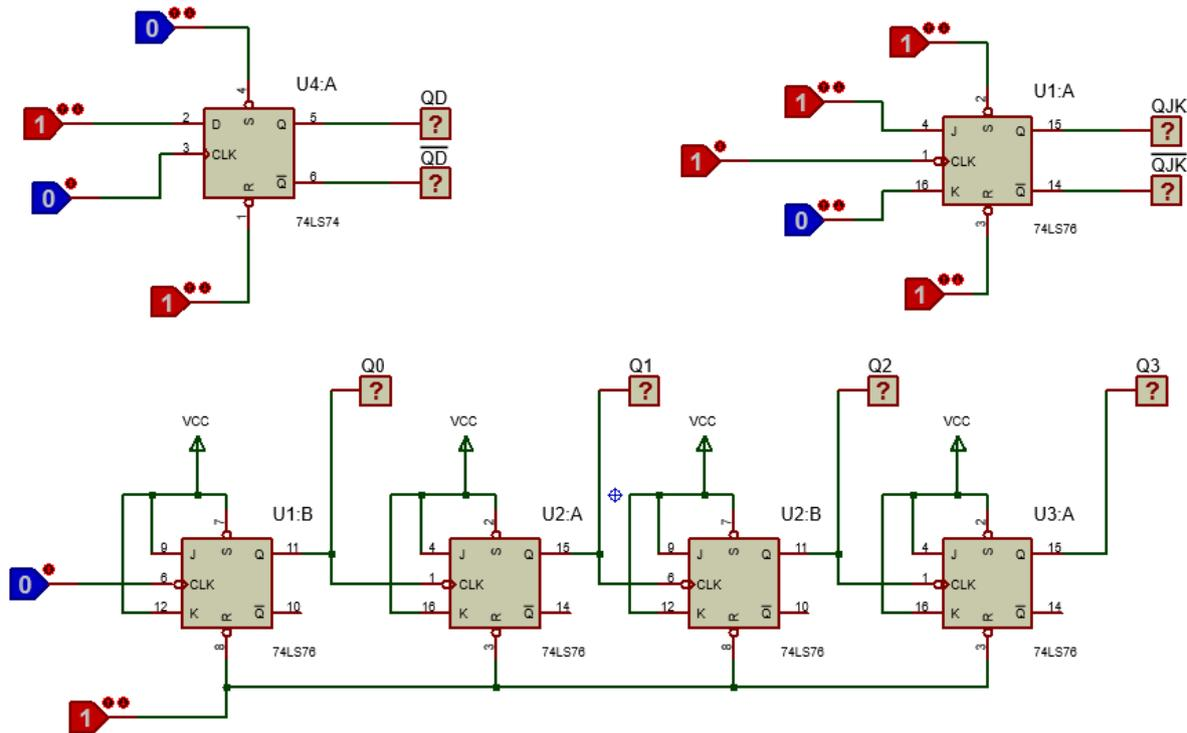

Figure 57: Flip-flop and counter
1. Draw the JK flip-flop illustrated in Figure 57. Select appropriate devices to generate a complete truth table for the device.